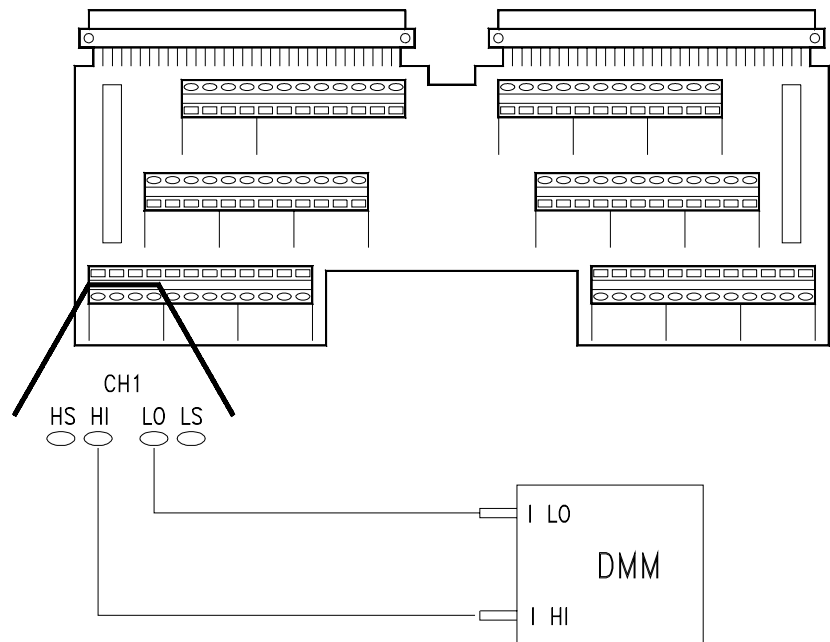

Figure 4-4. DC Current Output Connections (Channel 1)
1. For each channel in the module, connect the DMM as shown in Figure 4-4. Channel 1 connections are shown in the figure. Connect the other channels in a similar manner. Set the DMM to measure dc current.